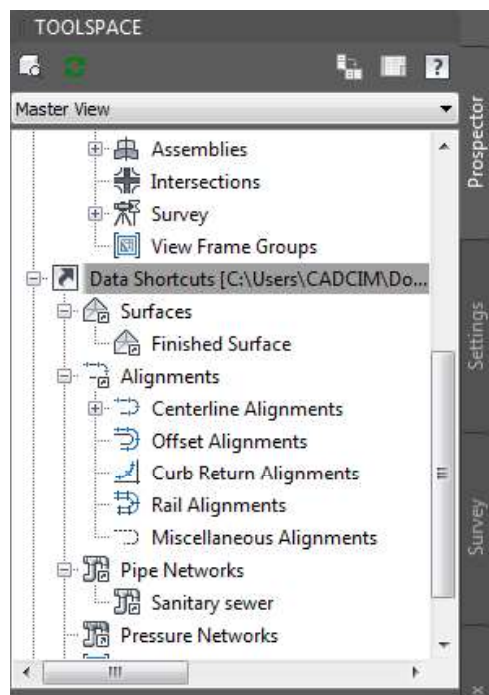

Figure 13-23 The Data Shortcuts node expanded
4. Expand the **Data Shortcuts** node in the **Prospector** tab, and then expand the **Surfaces**, **Alignments**, and **Pipe Networks** sub-nodes to view the data shortcuts created from the objects, refer to Figure 13-23.